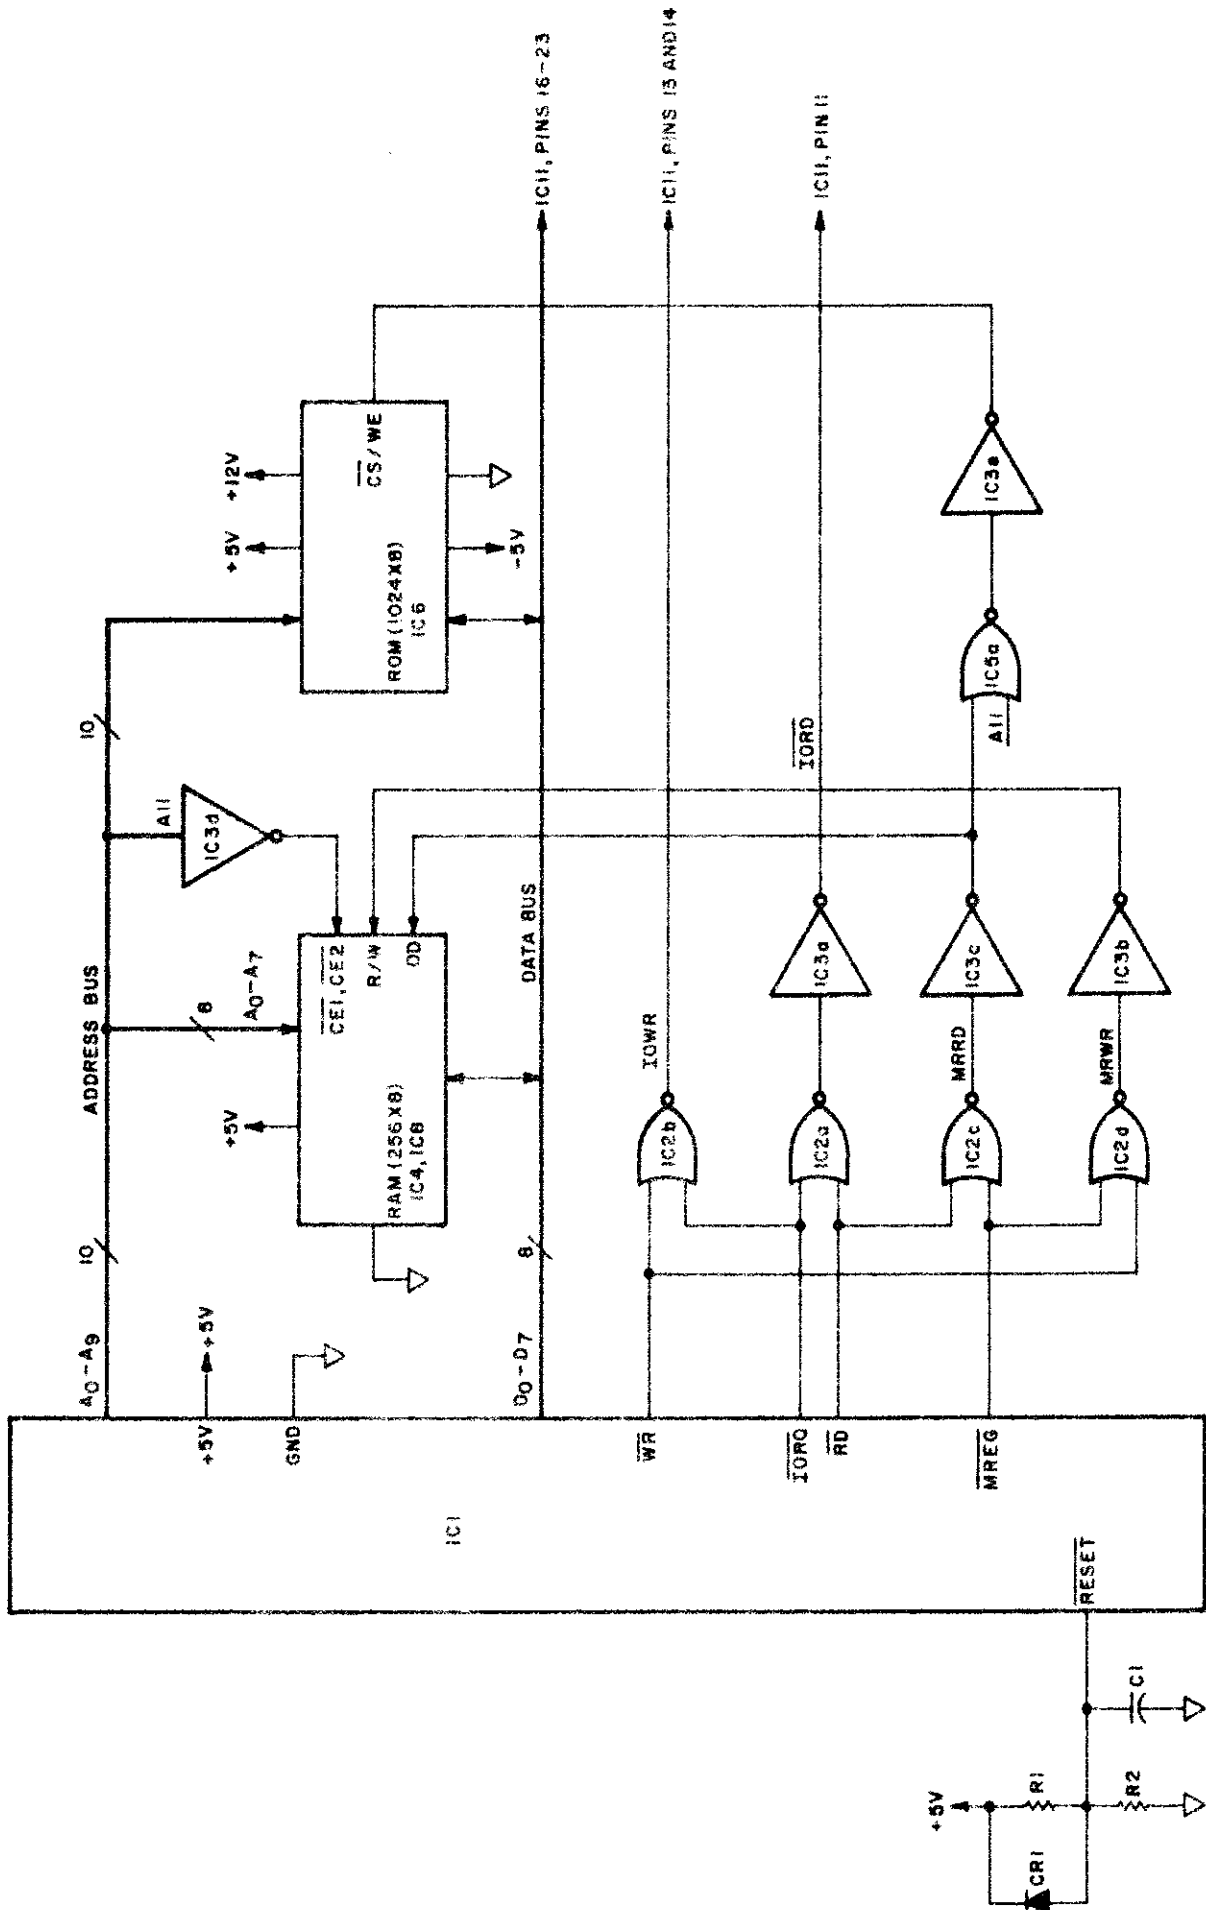

Figure 3-3. CPU and Memory Circuits
- 3.12 DETAILED THEORY OF OPERATION, CPU AND MEMORY CIRCUITS. See Figures 3-3 and 6-1.